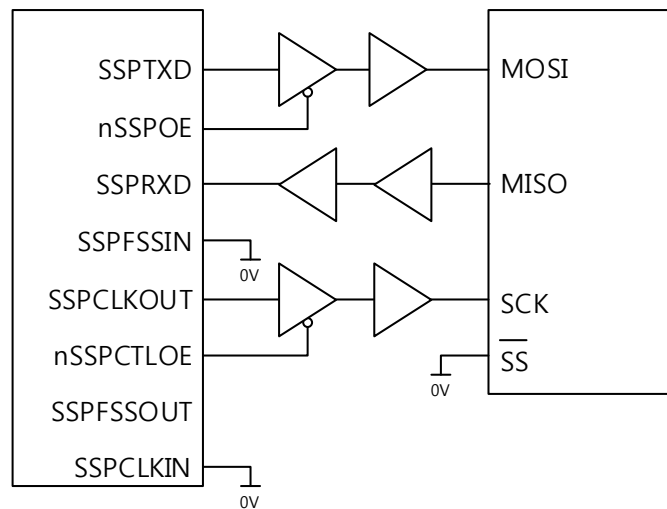

Figure 67. PrimeCell SSP master coupled to an SPI slave
Figure 67 shows how a PrimeCell SSP (PL022) configured as master, interfaces to a Motorola SPI slave. The SPI Slave Select (SS) signal is permanently tied LOW and configures it as a slave. Similar to the above operation, the master can broadcast to the slave through the master PrimeCell SSP SSPTXD line. In response, the slave drives its SPI MISO port onto the SSPRXD line of the master.